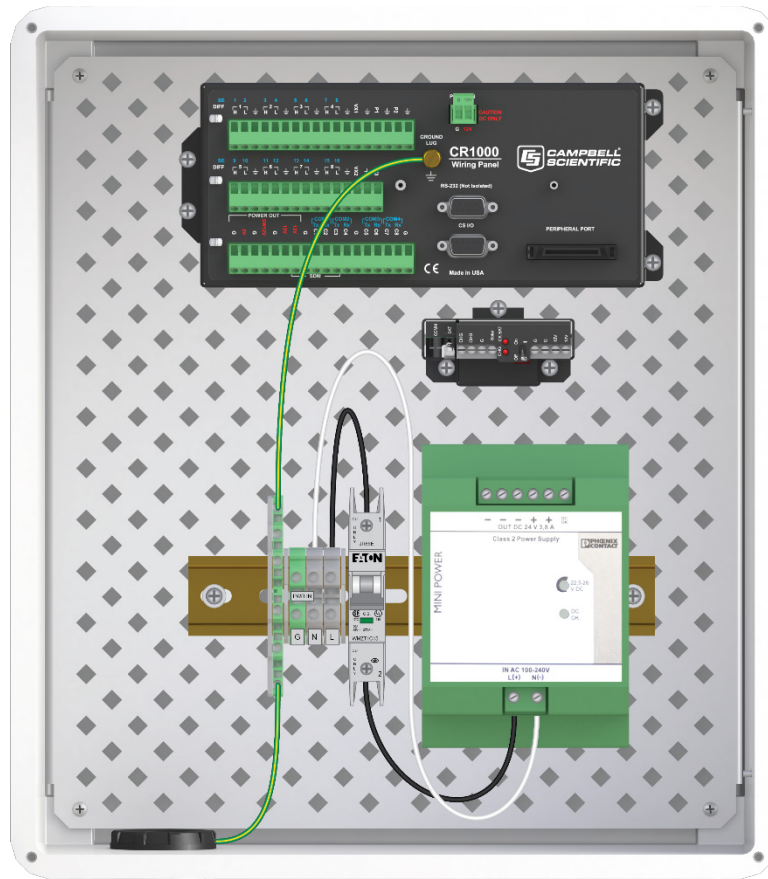

FIGURE 5-7. Connecting the 3 x 6 terminal block to the enclosure ground lug
6. Connect the bottom-side of the 3 x 6 terminal block to the enclosure ground lug (FIGURE 5-7).